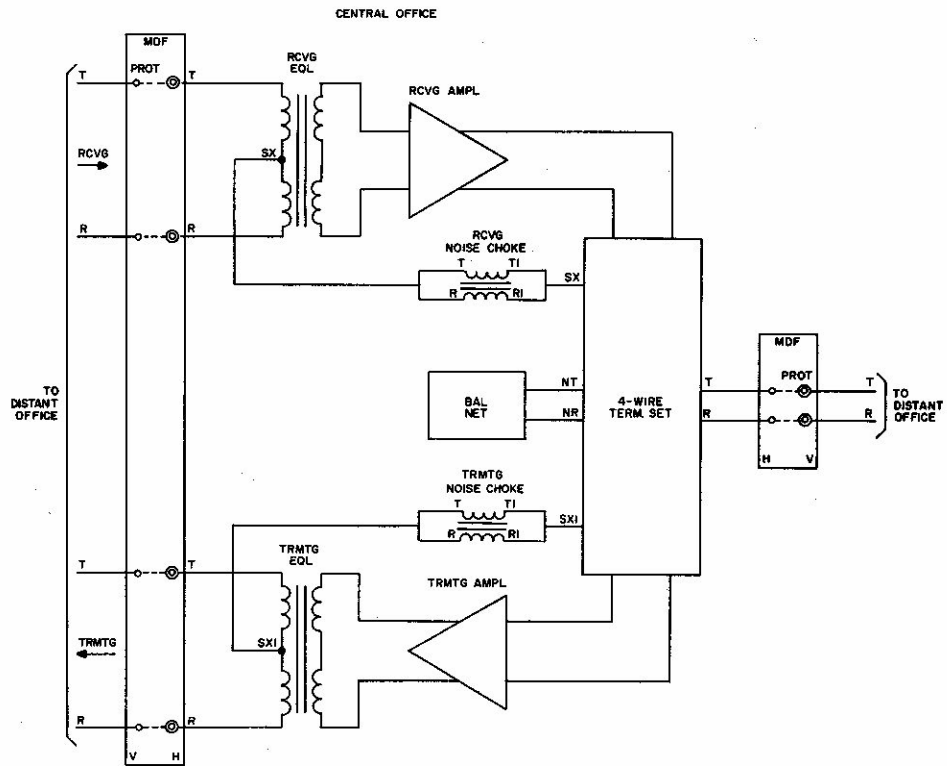
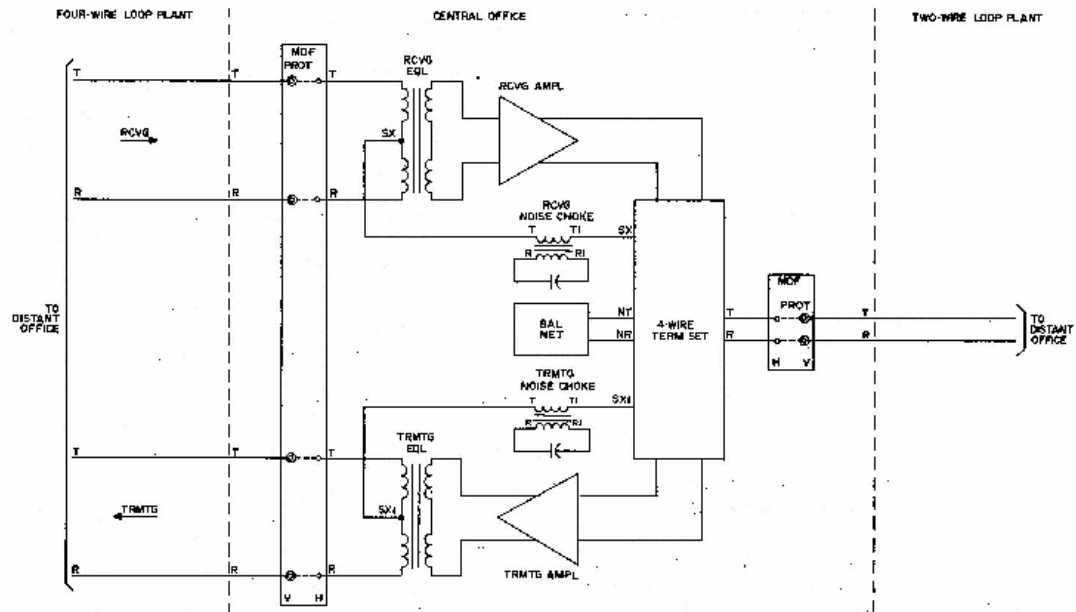

Figure 16: 4-Wire Term Set Application
Figure 17: Capacitor Application
4.09 Four-Wire Circuits Extended in Two Wires: For a four-wire circuit with dc signaling simplexed on the transmit and receive pairs, insert a Noise Choke in each of the two simplex legs between the repeat coil and the four-wire termination set as shown in Figure 16. The Noise Choke's efficiency may be improved by placing a small capacitor across one winding of each choke, as shown in Figure 17. The capacitance value may be determined in accordance with paragraph 4.07.